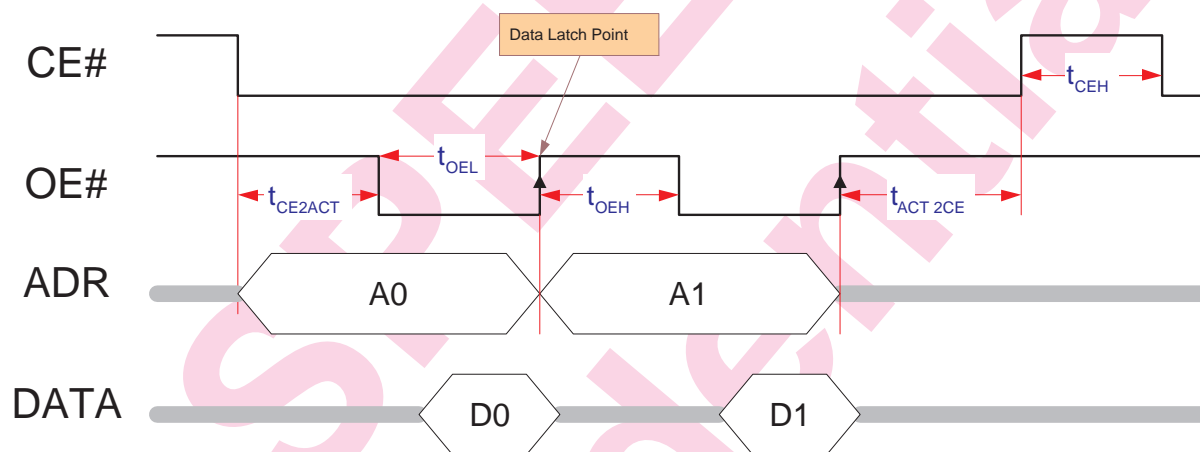

Figure 58: NOR Flash Read Timing
- Figure 58: NOR type flash normal read timing